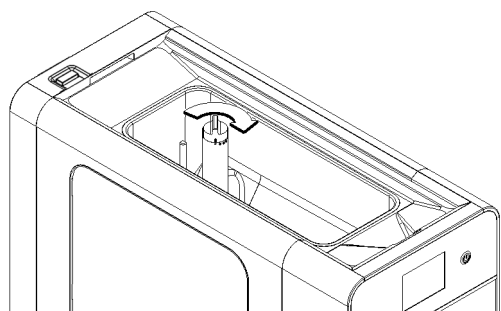

figure 7
**4** Turn the upper part of the mixing pipe completely clockwise in order to stop the mixture entering the cylinder. (see figure 7)